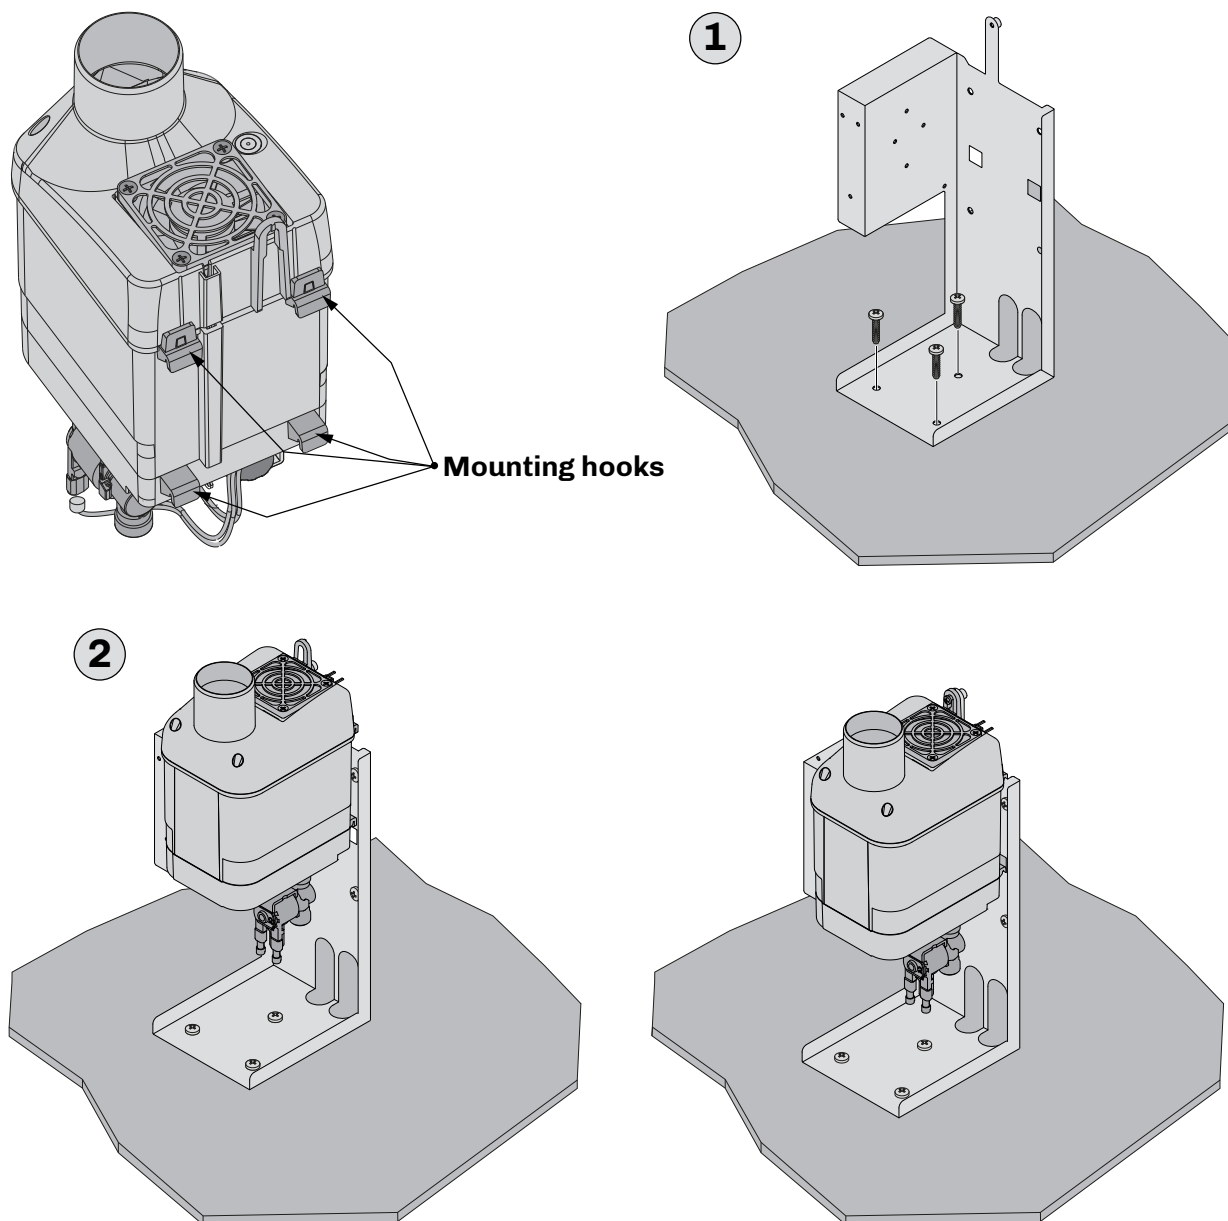

Fig. 10. Instructions for mounting the box on a supporting base
- Secure the box to the base following the instructions given in the picture "**FIG. 10. INSTRUCTIONS FOR MOUNTING THE BOX ON A SUPPORTING BASE**" ON PAGE 22 and the dimensions of the holes and box given in the subsection "**4.3.2 DIMENSIONS OF MISTRAL WITH BOX**" ON PAGE 15 (1);
- Attach the **Mistral** humidifier to the box, making sure it is secure (2);